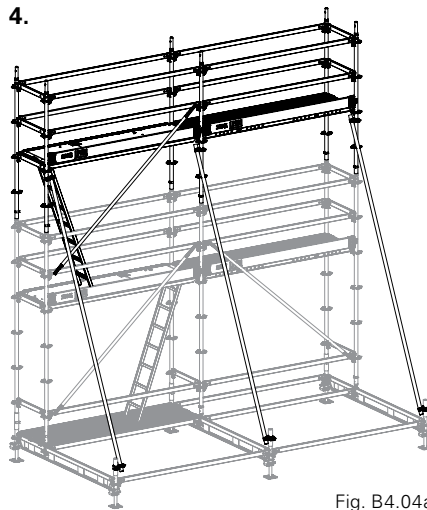

Fig. B4.04a
- Steel Scaffold Tubes \varnothing 48.3 x 3.2 and Standard Couplers NK 48/48 (Fig. B4.04a)